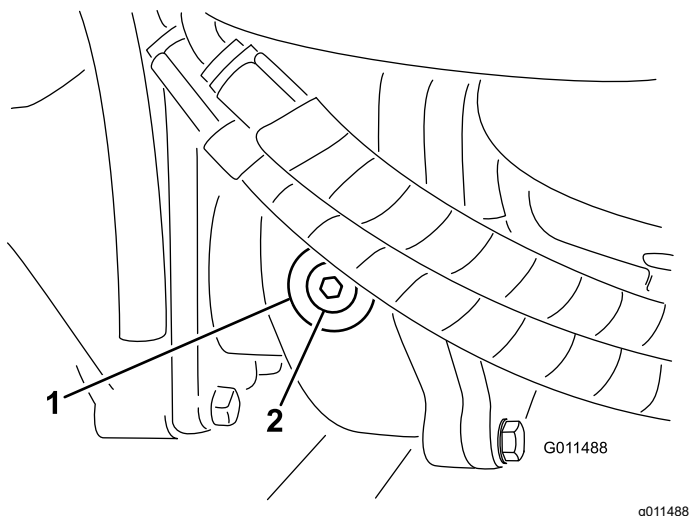

Figure 76
2. Remove the check/fill plug from the left side of the gearbox and ensure that lubricant is up to the bottom of the hole (Figure 76).